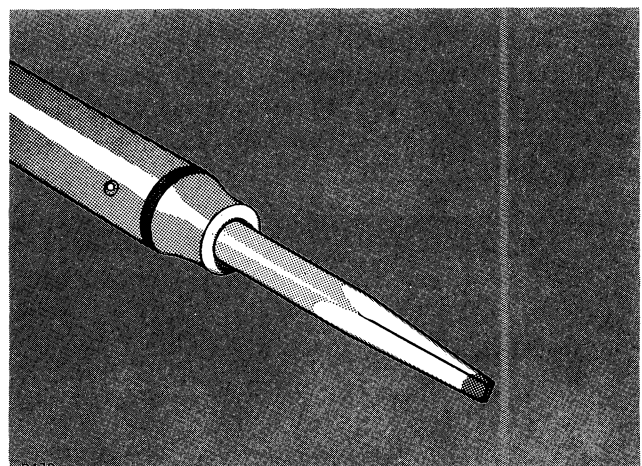

Fig. 5-4. Soldering iron tip properly shaped and tinned.
5-27. Because of the shape of the terminals on the ceramic strips it is advisable to use a wedge-shaped tip on your soldering iron when you are installing or removing parts from the strips. Figure 5-4 will show you the correct shape for the tip of the soldering iron. Be sure and file smooth all surfaces of the iron which will be tinned. This prevents solder from building up on rough spots where it will quickly oxidize.
2. Prepare the tip of the iron as shown in Fig. 5-4.